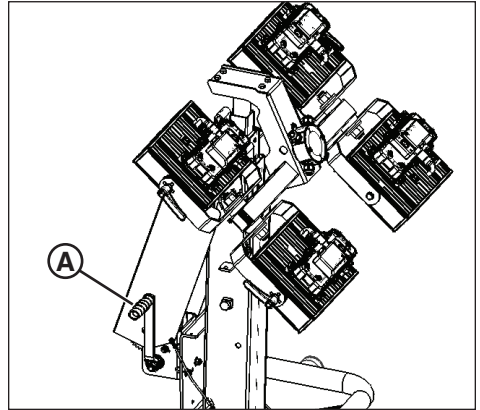

Figure 11
2. Turn the tower winch (A, Figure 11) until the tower is fully raised.
3. Turn the tower winch (A, Figure 11) until the tower is fully lowered.